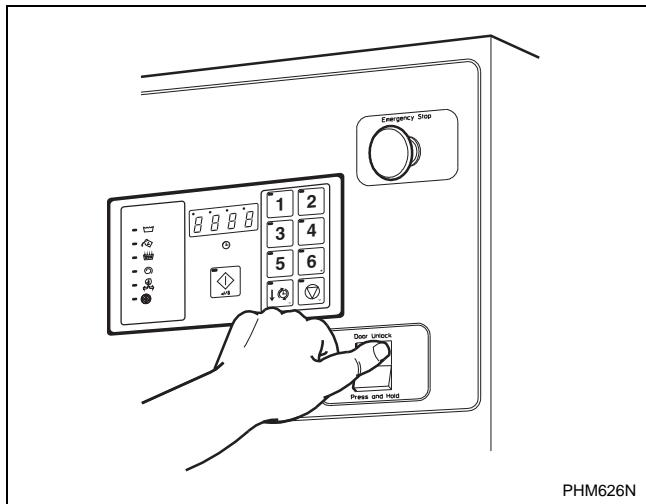

Figure 25
- Use left hand to press and hold the door unlock button located on the lower right front of the control panel. Refer to *Figure 25*.